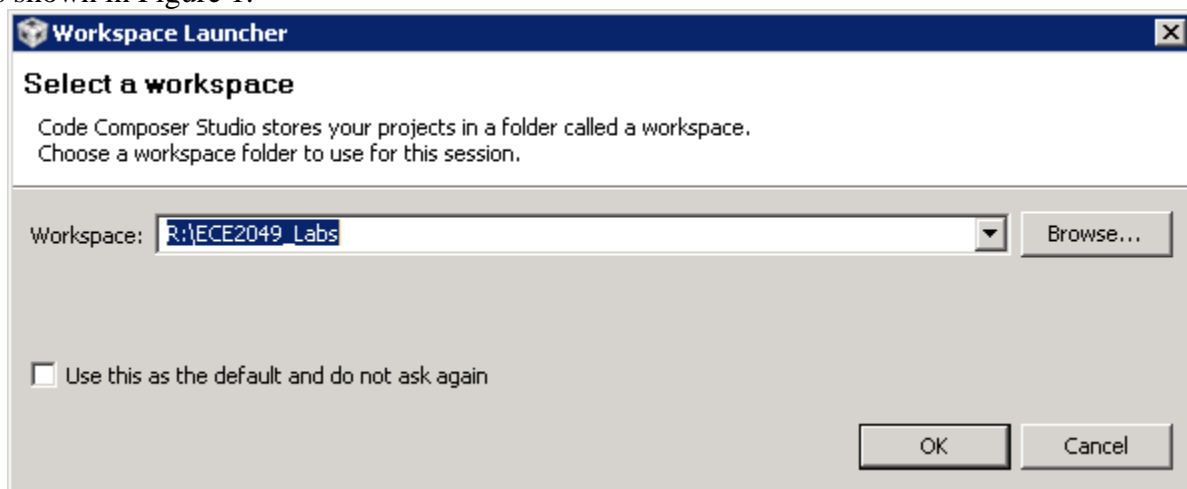

Figure 1: Selecting a Workspace
4. When CCS starts up, it will ask you to select a workspace. A **workspace** is CCS's location for storing all of your projects and configuration files. You should select a path on your network drive (**R:**) or a flash drive—do NOT select a path on the local computer. The local computers may be re-imaged at any time and you will lose your work! We recommend selecting a workspace path like **R:\ECE2049_Labs**, as shown in Figure 1.